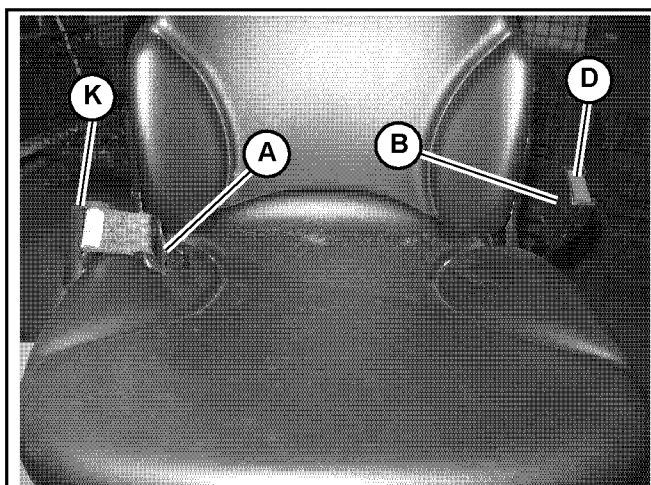

Fig. 27 – Seat Belt
Fasten the seat belt around your hips and waist and insert tongue (A, Fig 27) into clasp (B) until it clicks securely in place. Slack in the seat belt should automatically retract into seat belt spool (K).